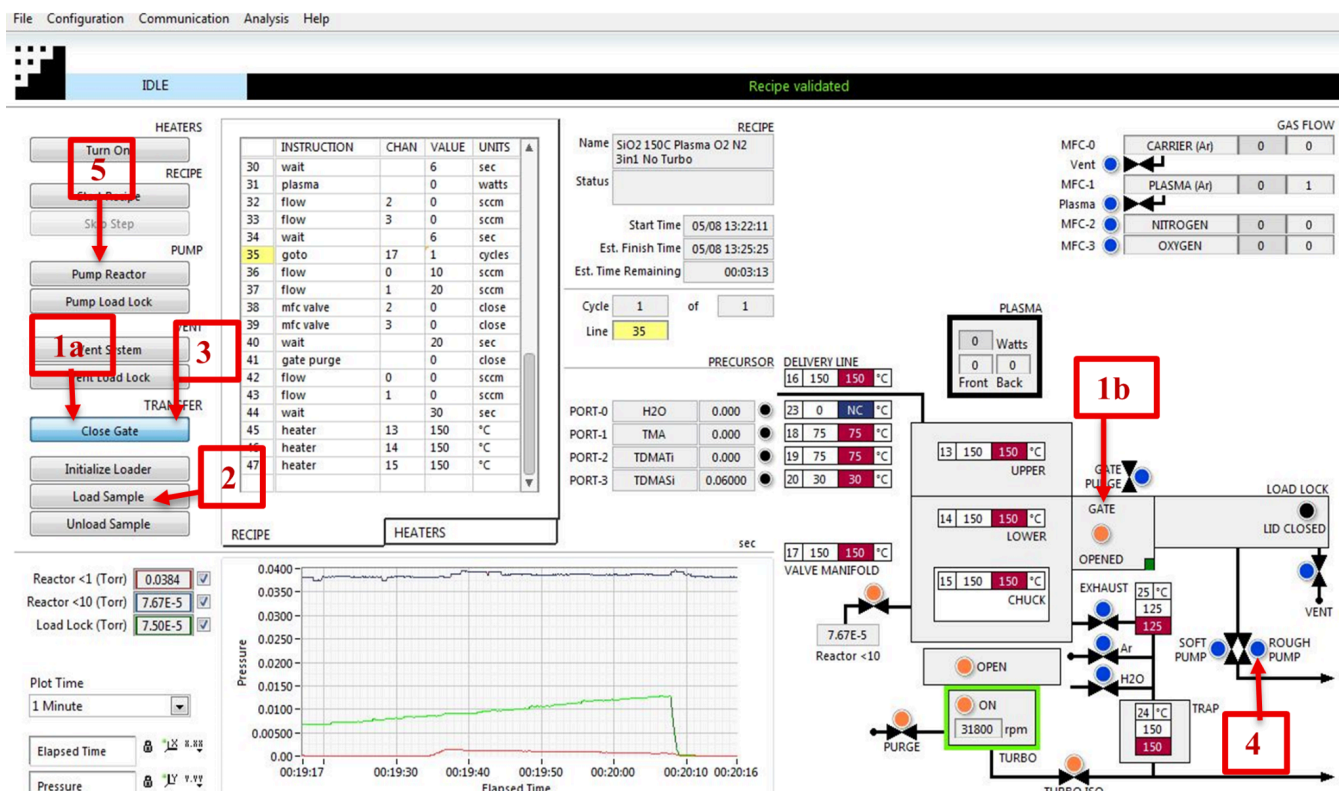

Figure 6, Loading and pumping reactor sequences
1. Open the gate valve by clicking either the **Open Gate** tap or **BLUE** button (Blue color means Closed and Orange means Open) [step 1a or 1b]. (Figure 6)
- ◆ If the pressure graph during your recipe does not look like the graph in Figure 6.